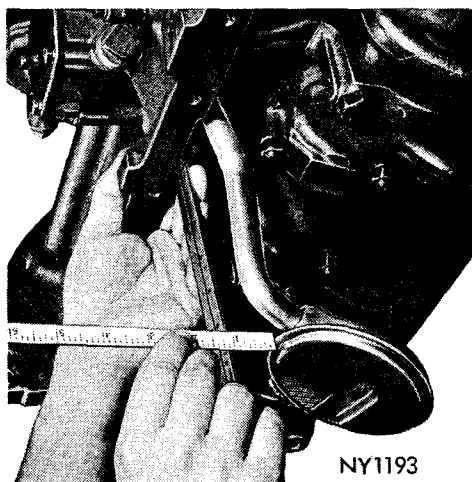

Fig. 45—Positioning Oil Pick-up Tube and Screen
- (1) Install oil pick up tube and screen. Turn in pipe until it begins to tighten in the block, continue tightening until the screen is positioned (Fig. 45). Hold a steel rule against the flat surface inside block and measure from the edge of the rule to the edge of oil screen. The measurement should be 1-1/8 inches with the screen properly positioned. The screen must